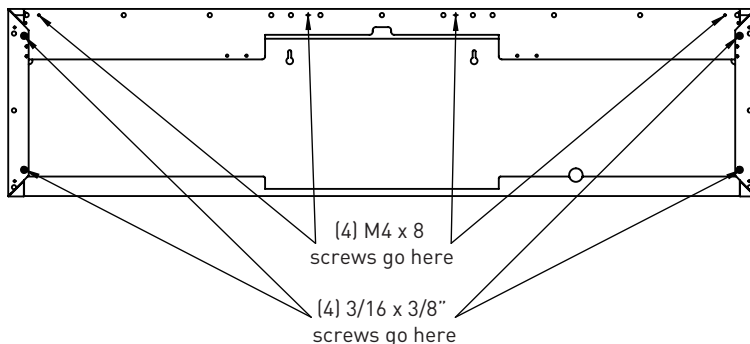

Fig. 9
4. To further secure the hood to the air diverter box by, fasten M4 x 8 screws and 3/16 x 3/8" screws to each of the (8) holes on the bottom of the air diverter box. These screw holes can be accessed from within the hood. The holes on top of the TUCH will align with the holes on the bottom of the air diverter box. (Fig. 9)